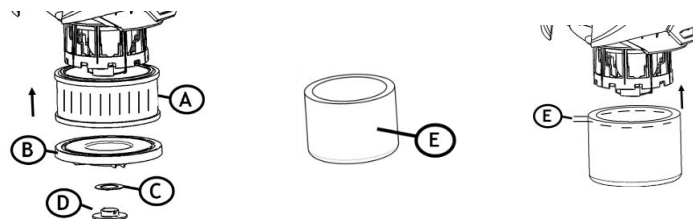

Figure 8
- a. Turn switch off (0) and unplug power cord.
- d. See Figure 8. Remove cover plate and fasteners (B,C D)
- e. Remove HEPA filter (A) and store away.
- f. Pull foam filter (E) over the filter basket.